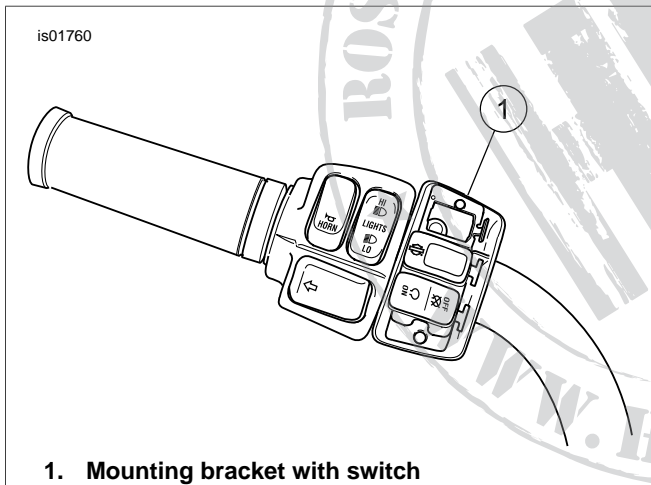

Figure 3. Install Mounting Bracket
6. See Figure 3. Install the mounting bracket (1) with switch(es) and/or accessories in the lower housing.